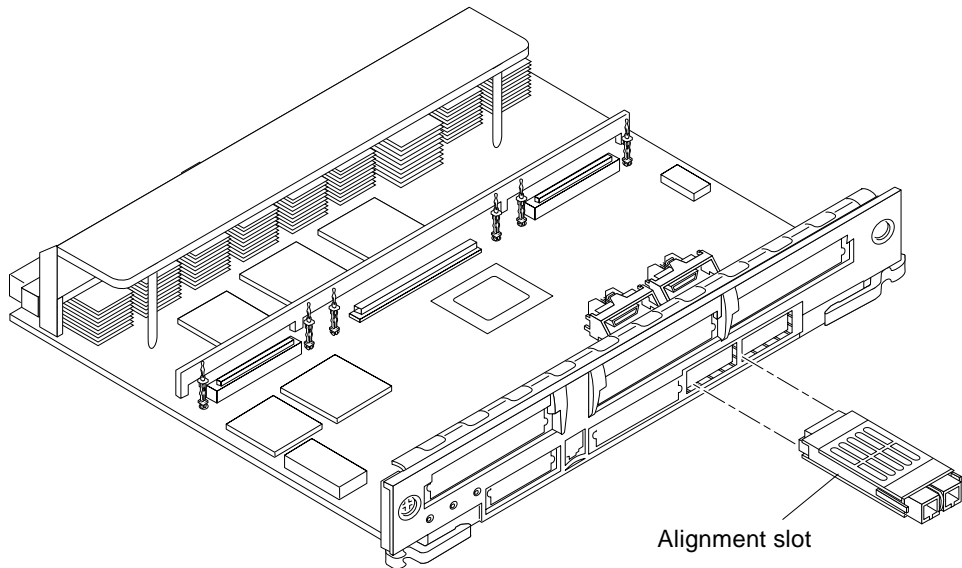

FIGURE 4-22 Removing or Installing a GBIC
2. Remove the GBIC from the I/O+ board by compressing the locking tabs located on either side of the card and pulling straight out from the opening in the I/O+ board panel (FIGURE 4-22).
The alignment slots should be on the bottom of the GBIC (FIGURE 4-22).